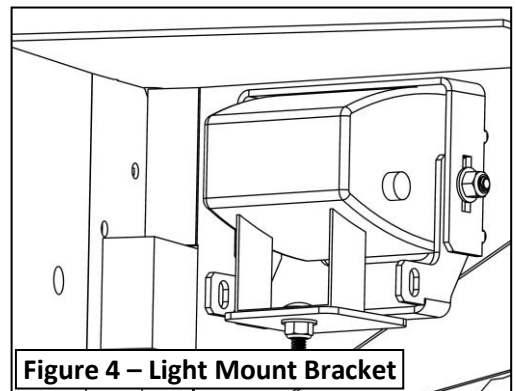

Figure 4 – Light Mount Bracket
- b. If you have aftermarket LED lights that you wish to use, Your Light Mount Brackets will be oriented as shown in **Figure 4**.